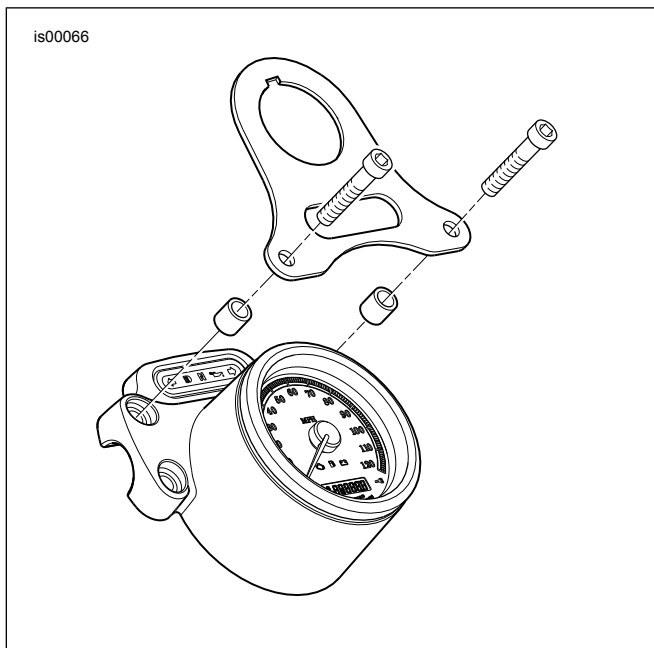

Figure 2. Front Mount Bracket - XL Custom
6. **For XL Custom:** See Figure 2. Tighten front capscrews to 12-18 ft-lbs (16-24 Nm) and then tighten rear capscrews to 12-18 ft-lbs (16-24 Nm).